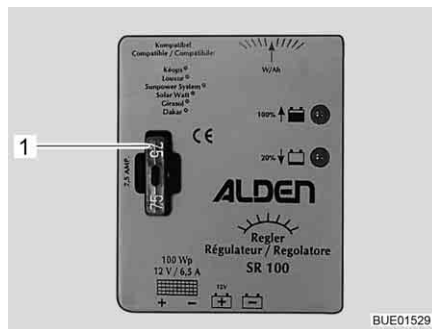

Fig. 149 Fuse of the 100 W solar charge regulator
- Replace flat fuse 5 A/light brown (Fig. 149,1).